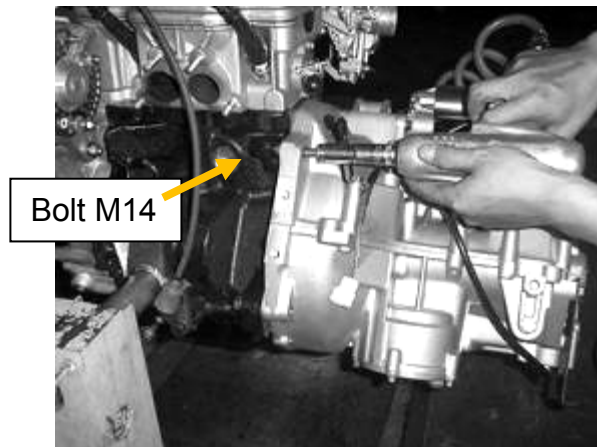

Figure 28
1. Remove bolt M14 (See Figure 28)